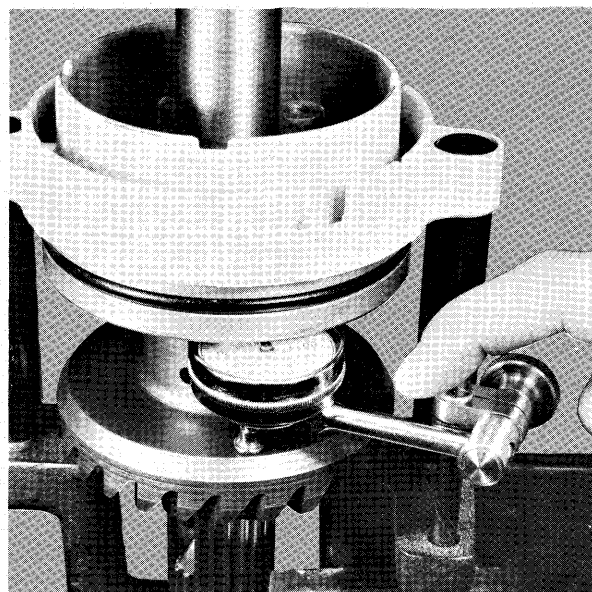

Figure 15—Checking Tightness of Indicator Holder
- L. Raise or lower indicator holder so that dial indicator pointer is visible, has a visible range of at least 20 increments on the dial, and has a maximum of 1-1/2 turns preload. Tighten holder on post. Check to see that indicator is secured to post by tapping on shaft of indicator with finger as shown in figure 15. Indicator pointer must always return to original position.